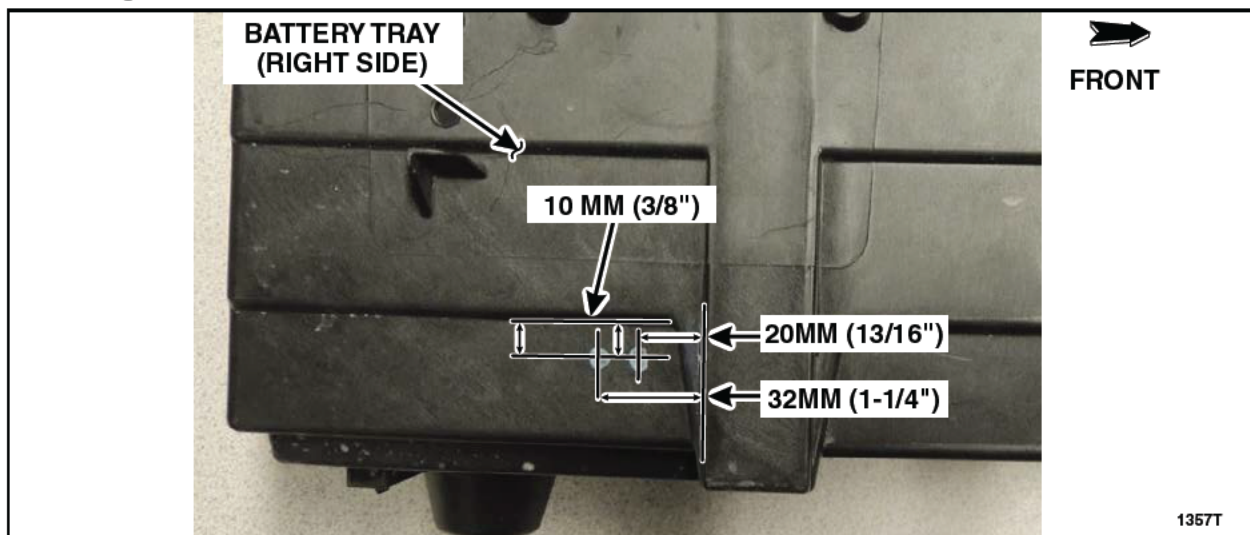

FIGURE C2
2. Measure and mark the two hole locations on the battery tray for the *new* wire harness clip. See Figure C2.